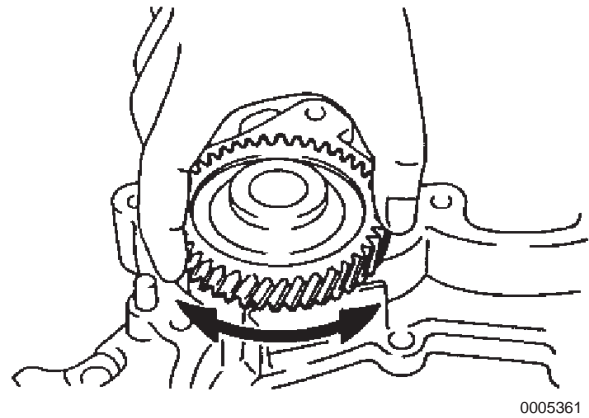

Figure 8-9
4. Check the drive shaft by turning the gear (**Figure 8-9**) and check if the drive shaft turns smoothly and the bearing has no play. If needed, replace the oil pump assembly.